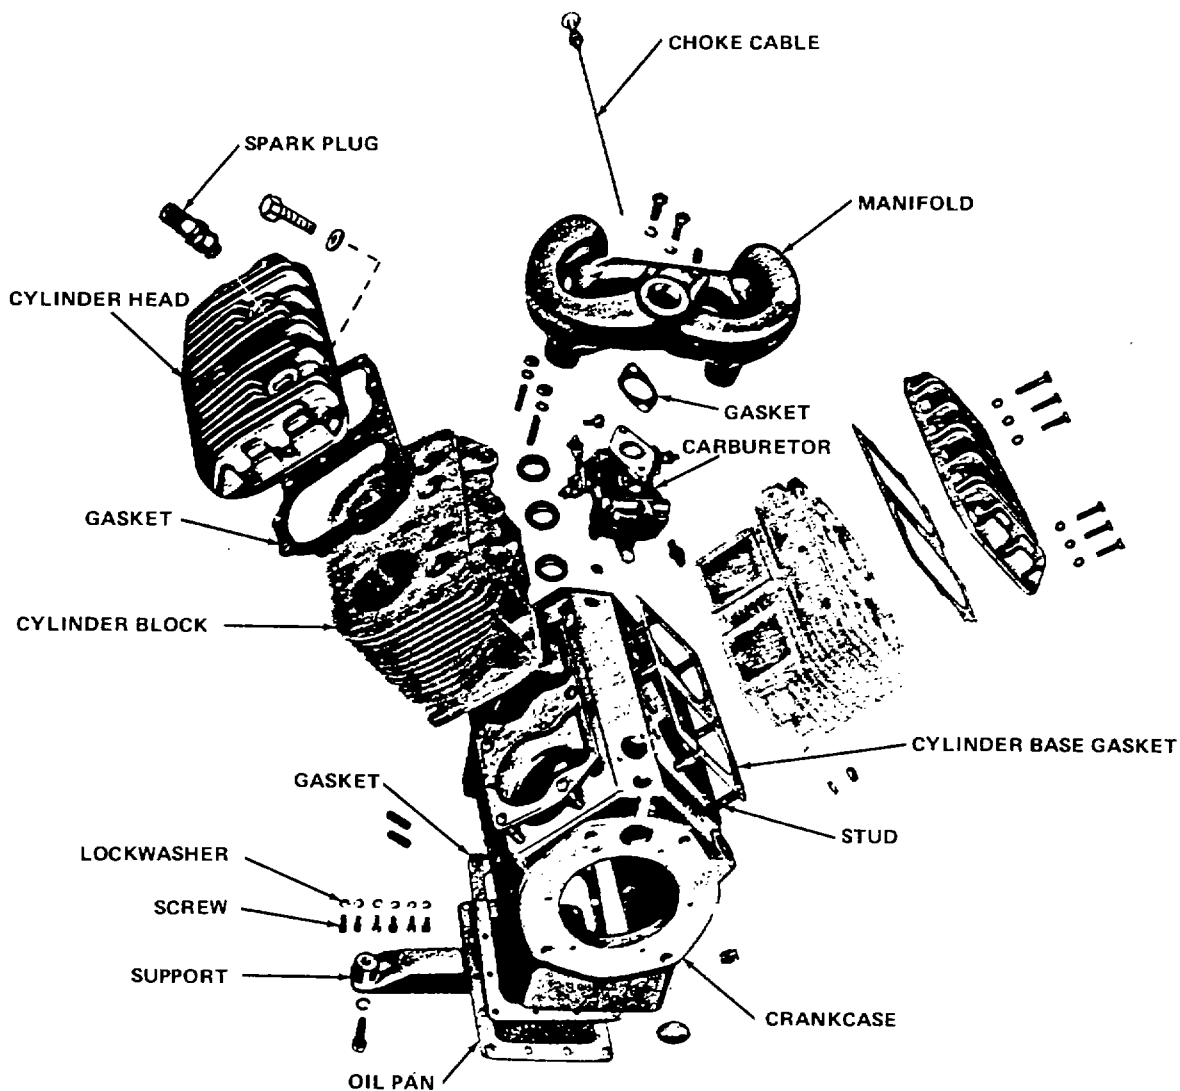
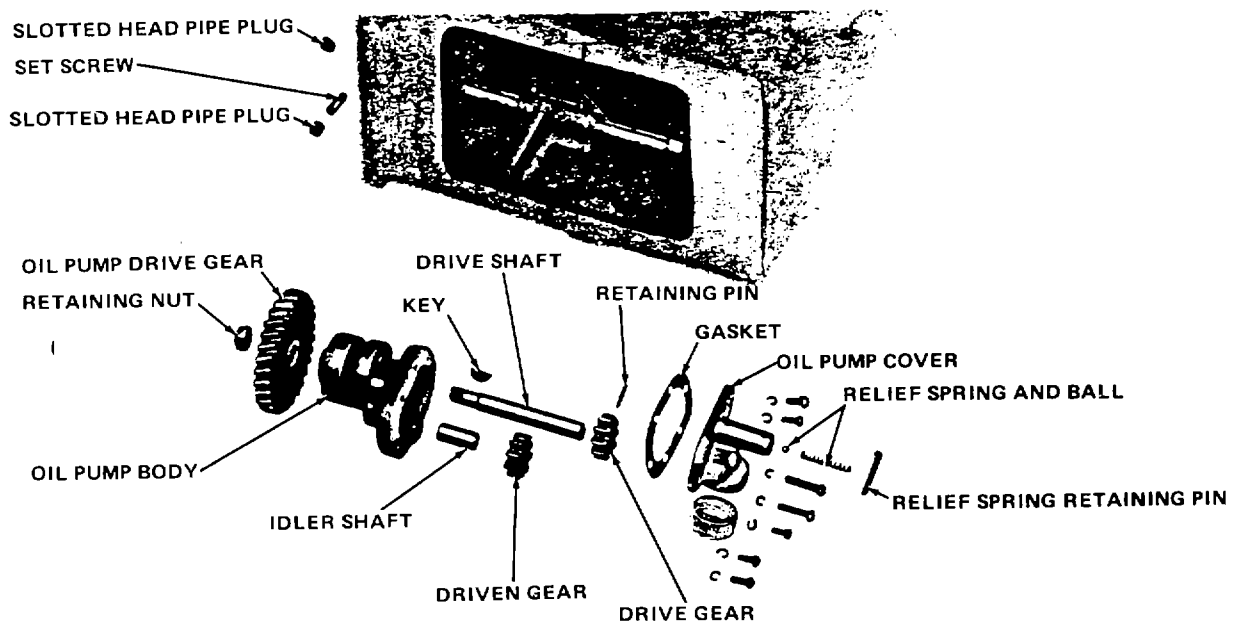

Figure 6-13. Cylinder Assembly
Figure 6-17. Oil Pump Assembly
h. Cylinder Heads. (Figure 6-13)
- (1) Remove spark plugs from left cylinder head.
- (2) Remove two 5/16-18" x 1-3/8" bolts and lock washer.
- (3) Remove fifteen 5/16-18" x 1 1/4" bolts and lock washer.
- (4) Remove left cylinder head.
- (5) Repeat steps 1, 2, 3 and 4 for right cylinder head.
I. Oil Pan. (Figure 6-13)
- (1) Invert engine.
- (2) Remove fourteen 5/16-18" screws and lock washers.
- (3) Remove oil pan.
m. Oil Pump. (Figure 6-17)
- (1) Remove slotted head pipe plug.
- (2) Using 5/32" alien wrench, remove setscrews.
- (3) Remove oil pump gear retaining nut.
- (4) Using hammer and drift pin, drive oil pump out of oil pump drive gear.
- (5) Remove relief spring retaining pin, spring and ball.
- (6) Remove two # 10-32 x 1-1/4" screws, one # 10-32 x 3/8" screw, four # 10-32 x 1/2" screws and seven # 10 washers.
- (7) Separate pump cover from pump body.
- (8) Remove woodruff key from drive shaft.
- (9) Remove drive shaft, drive gear, driven gear and idler shaft.
- (10) Remove retaining pin and separate drive gear from drive shaft.